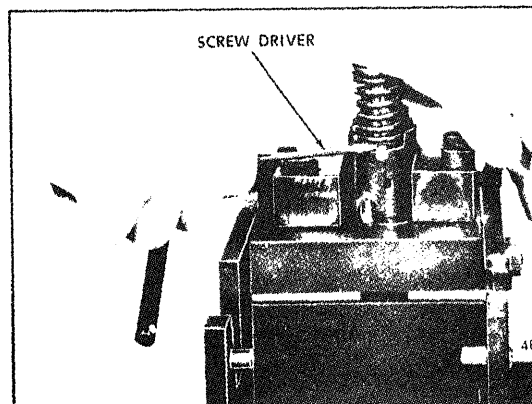

Fig. 11 - Removing Injector Follower Stop
2. Compress the follower spring. Then raise the spring above the stop pin with a screw driver and withdraw the pin (Fig. 11). Allow the spring to rise gradually.